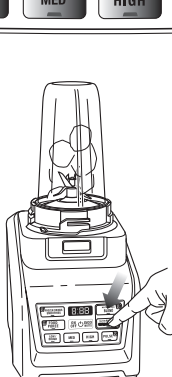

Fig. 4
- 5 Press the power button on, and select the speed or Auto-iQ™ program that suits your needs. The Auto-iQ™ program will stop the appliance automatically at the end of the program. (Fig. 4)